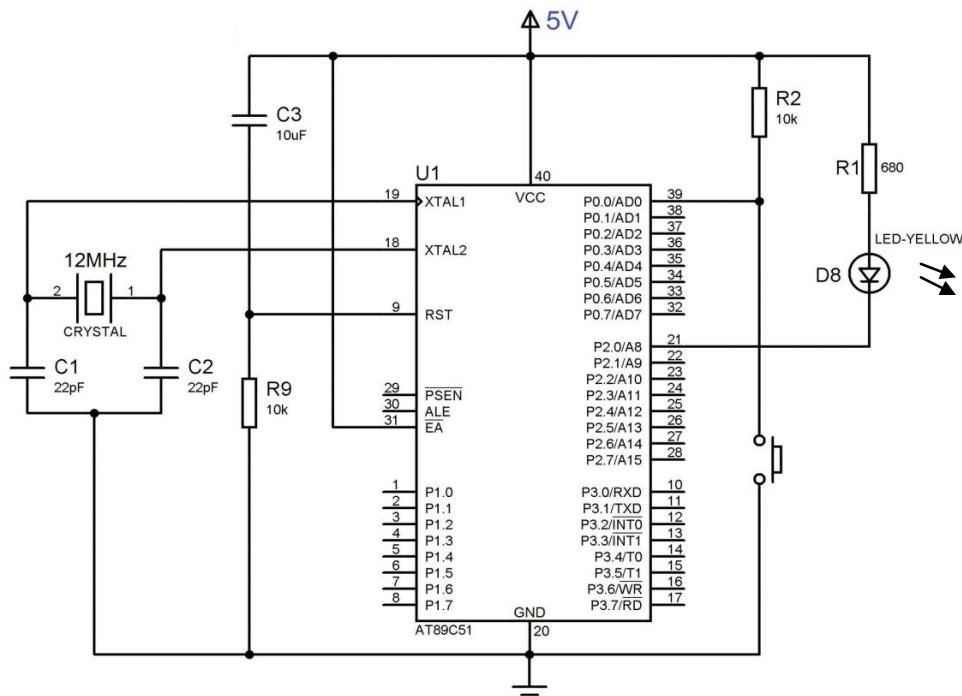

Figure 9.4: 89C51 connection to LED and switch
- 8 Interface LED to microcontroller as per circuit diagram shown in Figure. 9.4
3. Refer Figure 9.4, change the LED connections. Connect anode of LED to P2.0 and cathode to ground. Modify the program given in Step 3 and turn ON the LED.